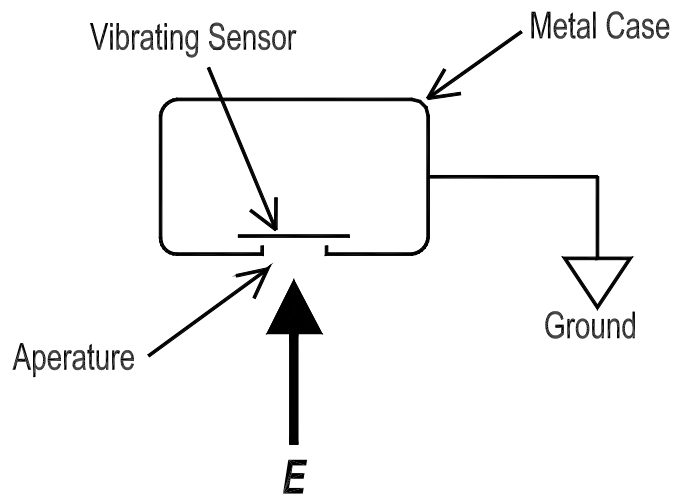

Figure II-2
Figure II-2 illustrates a Monroe Electronics Model 1036 fieldmeter probe in simple graphical form. This particular fieldmeter is a chopper-stabilized design that operates reliably in both ionized and non-ionized environments. The probe can be physically located at the desired measurement location, while the instrumentation portion of the fieldmeter is remotely located. Because of its 'intrinsically safe' (IS) rating, the probe can operate continuously in hazardous (explosive) environments provided that it is installed according to Monroe Electronics' instructions, and used with the approved intrinsic safety barriers.